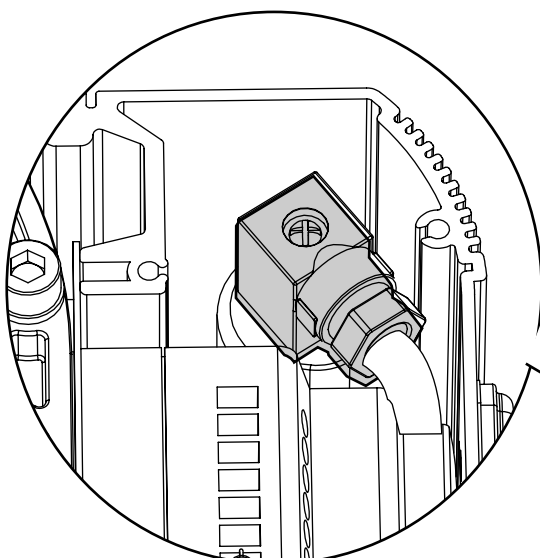

Figure 3.
4. Remove the plug screw and detach the plug from the sensor (See figures 3 & 4)